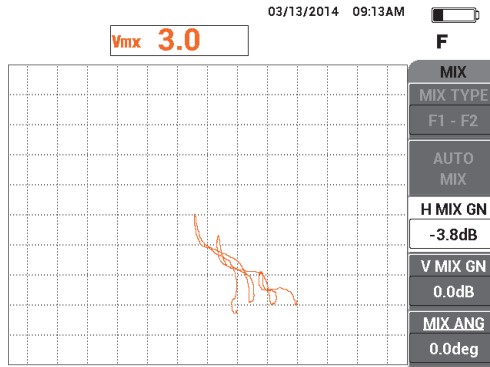

Figure 5-110 Adjusting the H MIX GN value
20. Press the MAIN FILTER menu key (✂) twice, and then decrease the **H MIX GN** (C key) until the signal baseline fits between two horizontal divisions (see Figure 5-110 on page 205).